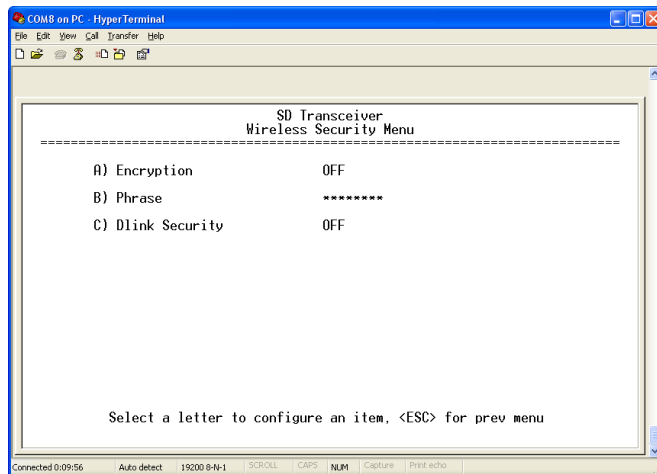

Figure 30. Wireless Security Menu
1. Select **Encryption** from the Wireless Security Menu (Figure 30). A flashing cursor appears in the field to the right of the item.